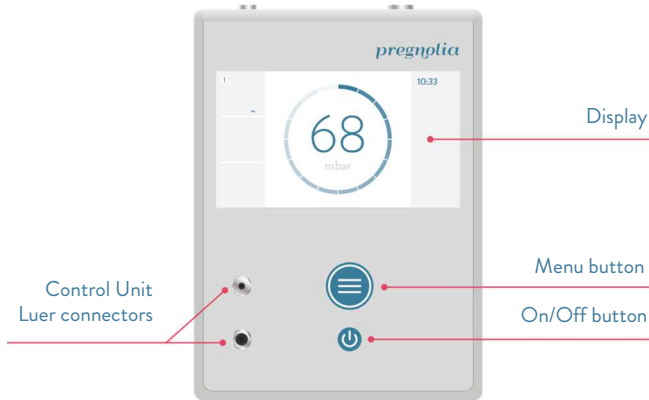

FIGURE 13: Front of the control unit console.
- 5) Connect the *connector cable* to the Luer connectors on the *control unit console* (*control unit Luer connectors*, refer to FIGURE 13).
- 6) Turn on the *control unit console* (On/Off button, FIGURE 13). The *control unit console* will emit an audio signal³.